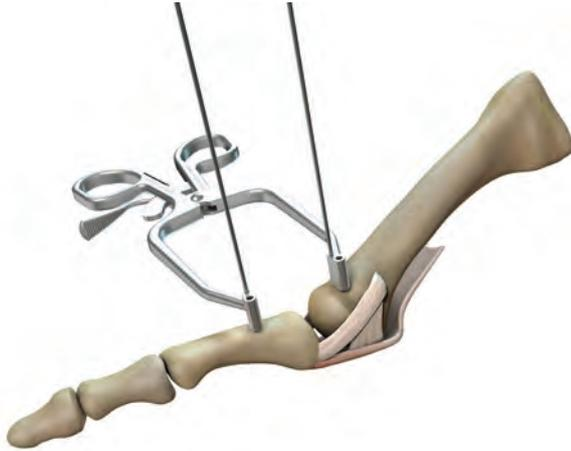

Figure 3
4. Distract the MTP joint using the Small Joint Pin Distractor (REF 72204347) and 1.6mm or 1.1mm K-wires on both sides at approximately 1cm from the joint (Figure 3).